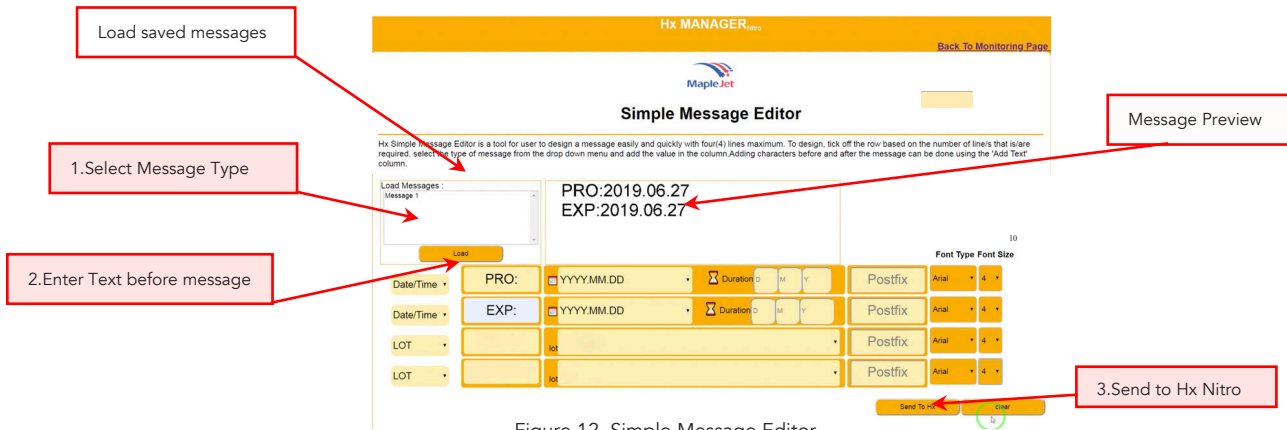

Figure 12. Simple Message Editor
- Open Hx Manager and proceed to Simple Message Editor (see Figure 12). Check Simple Editor Training Video